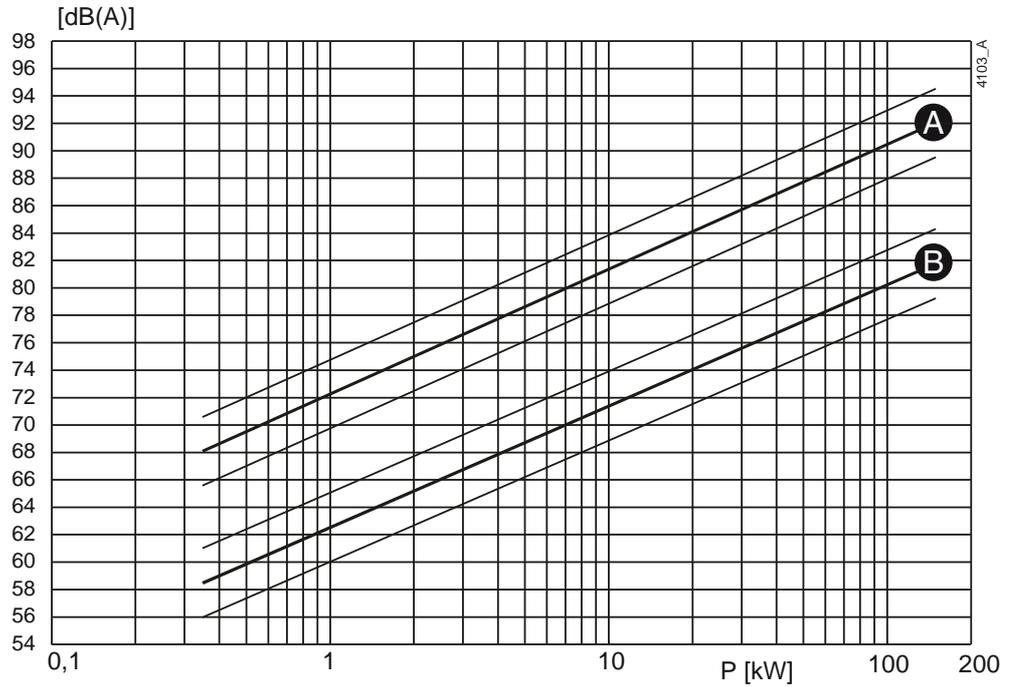
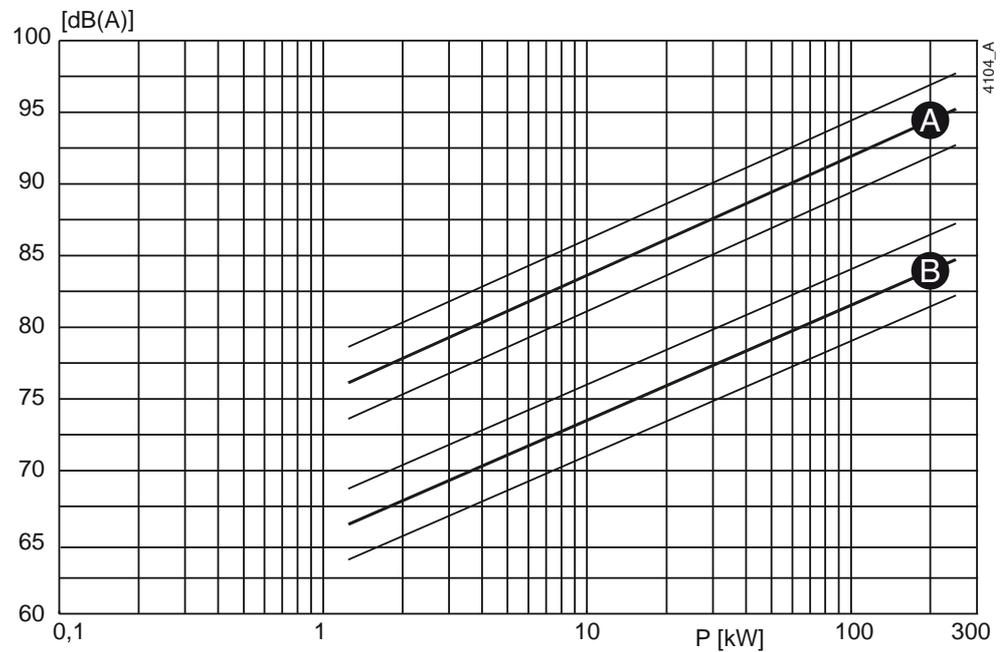

Figure 97: Noise level as function of pump power [kW] at 1450 min⁻¹
Figure 98: Noise level as function of pump power [kW] at 2900 min⁻¹
- 1 Determine the noise level (L_1) of the pump, see figure 97 or figure 98.